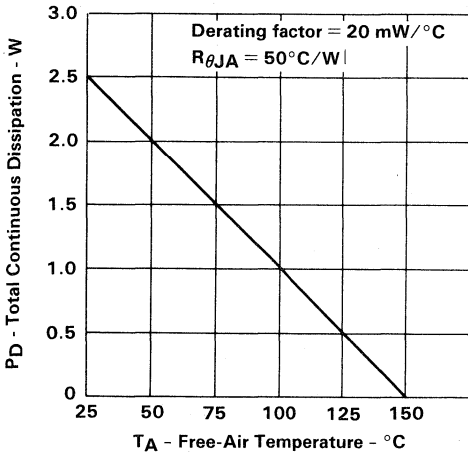

FIGURE 1
- For operation above 25°C free-air or case temperature refer to Figures 1 and 2. To avoid exceeding the design maximum virtual junction temperature, these ratings should not be exceeded. Due to variations in individual device electrical characteristics and thermal resistance, the built-in thermal overload protection may be activated at power levels slightly above or below rated dissipation.